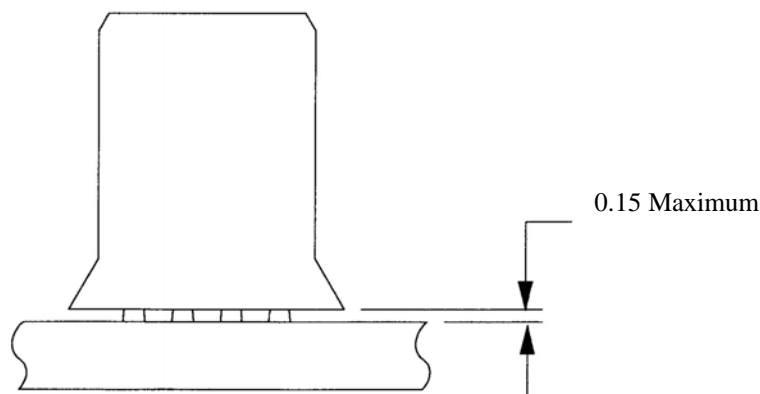

Figure 2
2.4.1 The seated module should meet the requirements outlined in Figure 2.